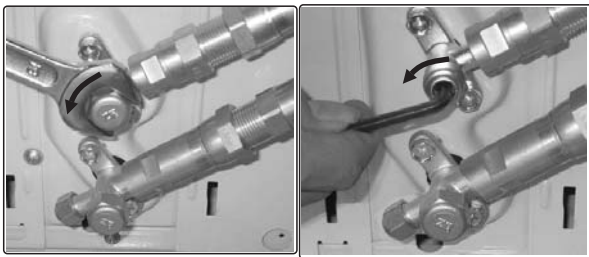

Fig.6.5
- Now remove the cover on the top valve using a 19 mm open-ended spanner. Open the valve by turning it counter-clockwise as far as it will go using a 5 mm Allen key. The valve is now open. If the valve is not opened fully, the system may malfunction and suffer damage. Screw the cover back on to the top valve and tighten it well to ensure that it is properly sealed. See Fig.6.5.